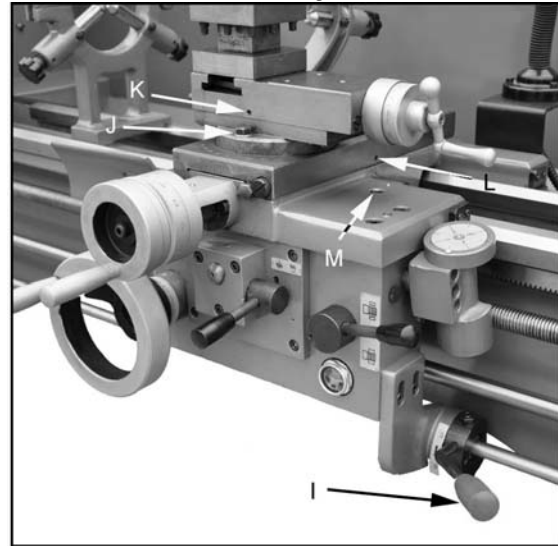

Figure 13
9. **Forward/Reverse Lever** (I, Fig. 13) - Pull lever up for clockwise spindle rotation (reverse). Push lever down for counter-clockwise spindle rotation (forward). Neutral
10. **Compound Rest Lock** (J, Fig. 13) - Turn hex nut clockwise to lock and counter-clockwise to unlock.
11. **Compound Slide Lock** (K, Fig. 13) - Turn set screw clockwise to tighten and counter-clockwise to loosen.
12. **Cross Slide Lock** (L, Fig. 13) - Turn set screw clockwise, and tighten to lock. Turn counter-clockwise and loosen to unlock. **Caution:** *Cross slide lock screw must be unlocked before engaging automatic feeds or damage to the lathe may occur.*
13. **Carriage Lock** (M, Fig. 13) - Turn hex socket cap screw clockwise and tighten to lock. Turn counterclockwise and loosen to unlock. **Caution:** *Carriage lock screw must be unlocked before engaging automatic feeds or damage to lathe may occur.*